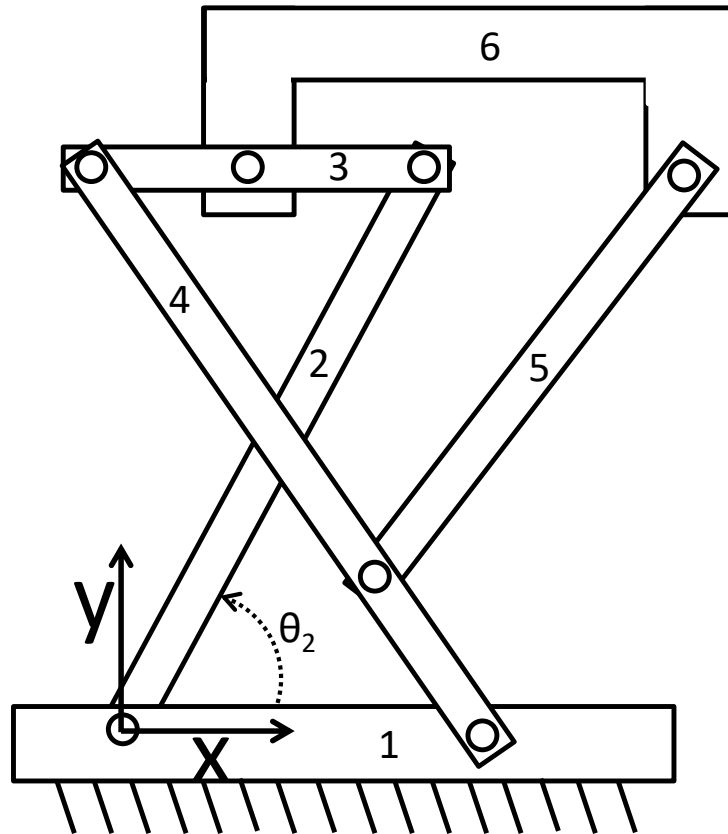

Figure 1. Horizontal-platform mechanism
Design and simulate a mechanism, shown in Fig. 1, using Matlab and SolidWorks. The purpose of this mechanism is to provide horizontal motion for the tabletop (link 6), within a specified tolerance. The tabletop must be able to travel at least 850mm along the x-axis, during which the vertical translation of the table's center of mass must be less than 4mm. The angular deviation of the tabletop must be less than  $1^\circ$  from the horizontal, throughout the entire motion of the mechanism. The input link (i.e., link 2) is driven by a motor located at the pin joint on which the origin is shown in Fig. 1.
- (1) Determine the dimensions of each link (i.e., their lengths, widths, and thicknesses) that allow the mechanism to achieve its intended functional requirements. Note that all the links are rectangular prisms except the tabletop. For all rectangular prism links, assume their widths are the same as their thicknesses (i.e., 30mm). Once you have determined these dimensions as well as the locations where they attach to each other via R-joints as shown in Fig. 1, use SolidWorks to CAD your final design. Submit a planar screen shot of this model and clearly label its dimensions. Label the location of the tabletop's center of mass as well. This screen shot should show the mechanism in a position such that it fits within the specified footprint. Draw a rectangle around your picture showing this footprint (i.e., 850mm x 1050mm) shown drawn to scale.
- (2) For your specific design, determine the maximum and minimum  $\theta_2$  (i.e.,  $\theta_{2\max}$  and  $\theta_{2\min}$ ) between which the motor must rotate link 2 back and forth with respect to link 1 such that the table achieves its desired oscillating stroke (i.e., >850mm along the x-axis).
- (3) Create a graph using MATLAB to display the horizontal displacement of the tabletop's center of mass along the x-axis as a function of  $\theta_2$  to show that it can span this desired stroke between  $\theta_{2\min}$  and  $\theta_{2\max}$ .
- (4) Create a graph using MATLAB to display the vertical displacement of the tabletop's center of mass along the y-axis as a function of  $\theta_2$  to show that the center of mass does not dip or rise more than 4mm in the vertical direction between  $\theta_{2\min}$  and  $\theta_{2\max}$ .
- (5) Create a graph using MATLAB to display the angular rotation of the tabletop in the z-direction as a function of  $\theta_2$  to show that the tabletop does not rotate more than  $1^\circ$  over its full stroke between  $\theta_{2\min}$  and  $\theta_{2\max}$ .
- (6) If the motor drives link 2 with a sinusoidal displacement of